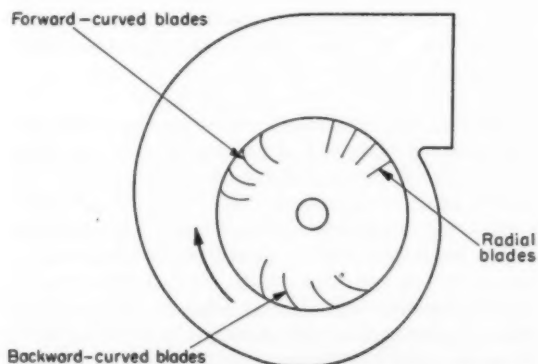

Fig. 9—Centrifugal-impeller blade shapes.
The three basic blade types in centrifugal impellers are (1) forward-curved blades, (2) backward-curved blades and (3) radial blades. Representative examples of each are given in Fig. 9.
A forward-curved impeller cannot be reversed and used as a backward-curved impeller because the intake edges of the blades are normally improperly shaped. In addition, different blade numbers and proportions are used with backward-curved blades in order to achieve optimum efficiency. Note the differences in blade camber for the forward-curved and backward-curved blades in Fig. 9.
RADIAL BLADES: Blades of centrifugal impellers with radial air discharge, Fig. 9, are simply a boundary shape between forward-curved and backward-curved blades. Straight radial blades are often